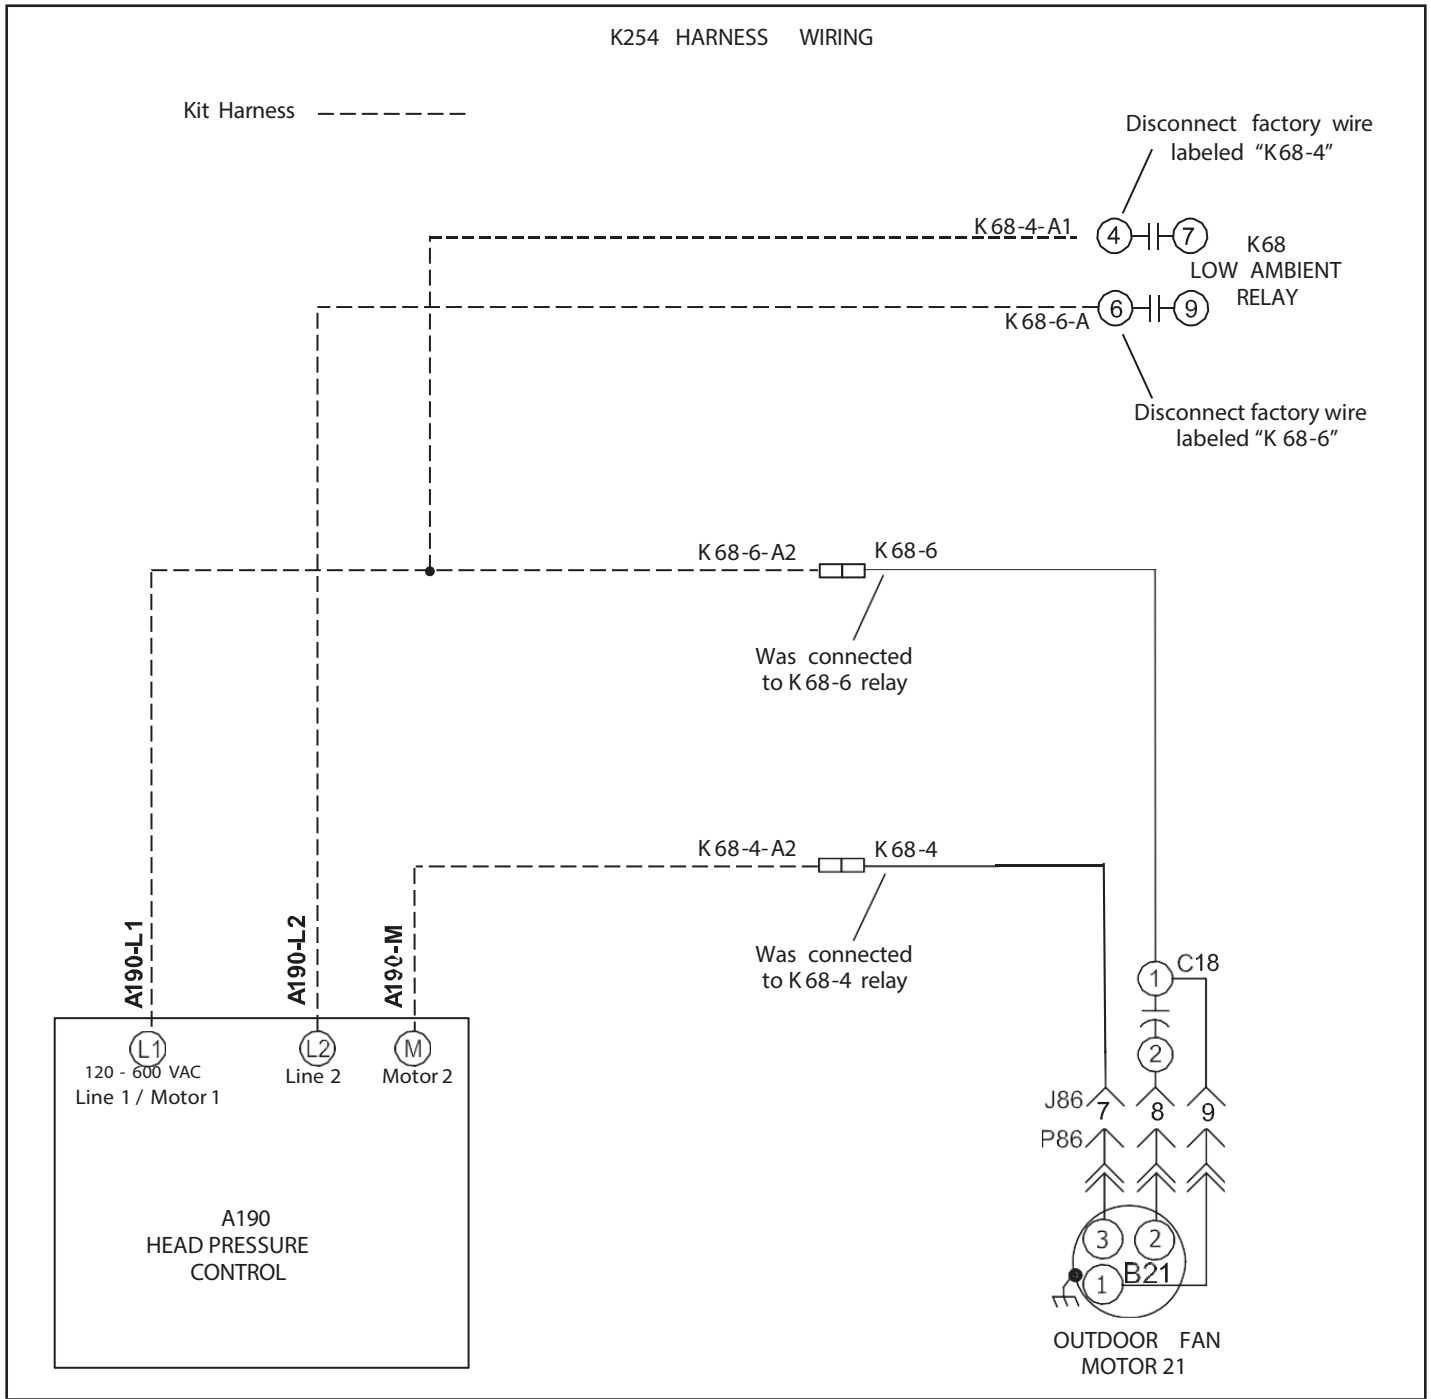
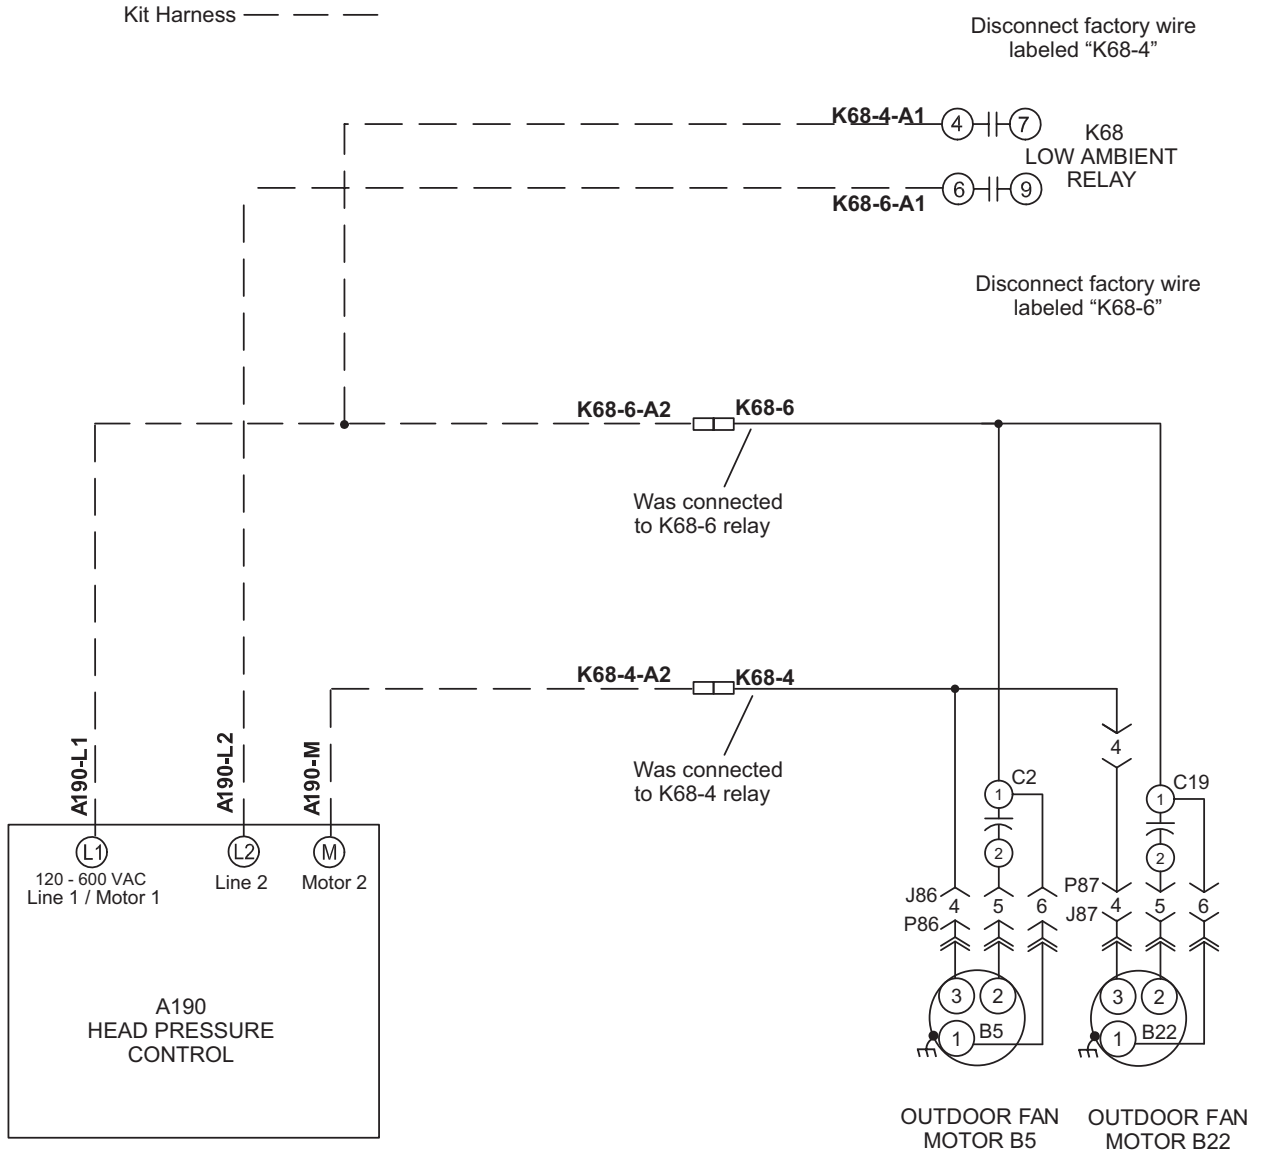
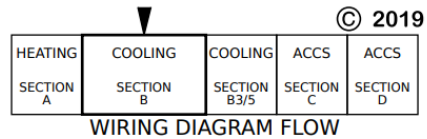

FIGURE 5
FIGURE 6
FIGURE 8
- 1 - Disconnect factory wires to K68 terminals 4 & 6. Reconnect these wires to the kit harness as shown in FIGURE 5 or FIGURE 6.
- 3 - Make the rest of the K68 harness connections as shown in FIGURE 5 or FIGURE 6. Refer to the diagrams in FIGURE 7 or FIGURE 8.